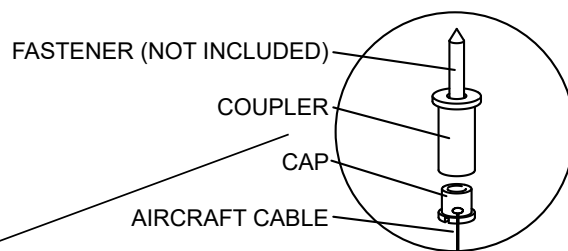

FIG 4
2. PASS THE AIRCRAFT CABLE THROUGH THE CAPS. (SEE FIG 4)